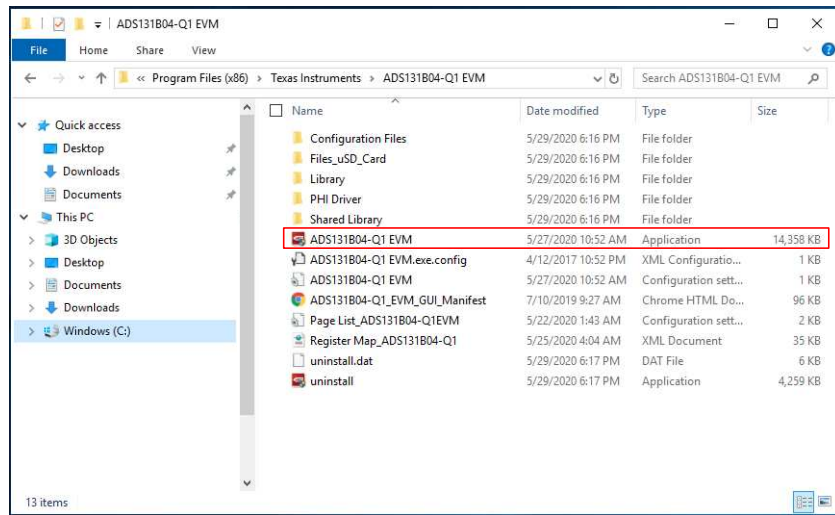

Figure 11. Launch the EVM GUI Software
3. Figure 11 shows how to launch the ADS131B04-Q1EVM GUI software.